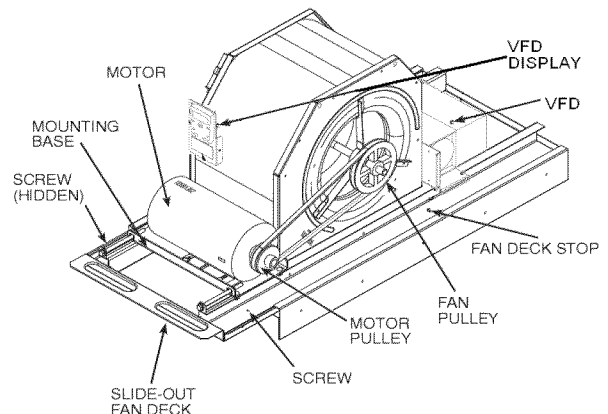

Fig. 30 - Evaporator-Fan Motor Adjustment
3. Remove two no. 10 screws at front of slide-out fan deck. Save screws. (See Fig. 30.)
4. Move motor mounting plate to adjust to proper belt tension. Motor adjuster bolts may be used to tighten belts. (See Fig. 30.) Do not overtighten belt.